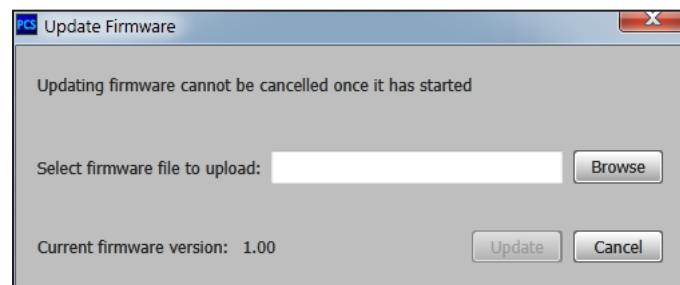

Figure 24. Update Firmware Browser
3. Click **Browse** (see figure 24 on the previous page).